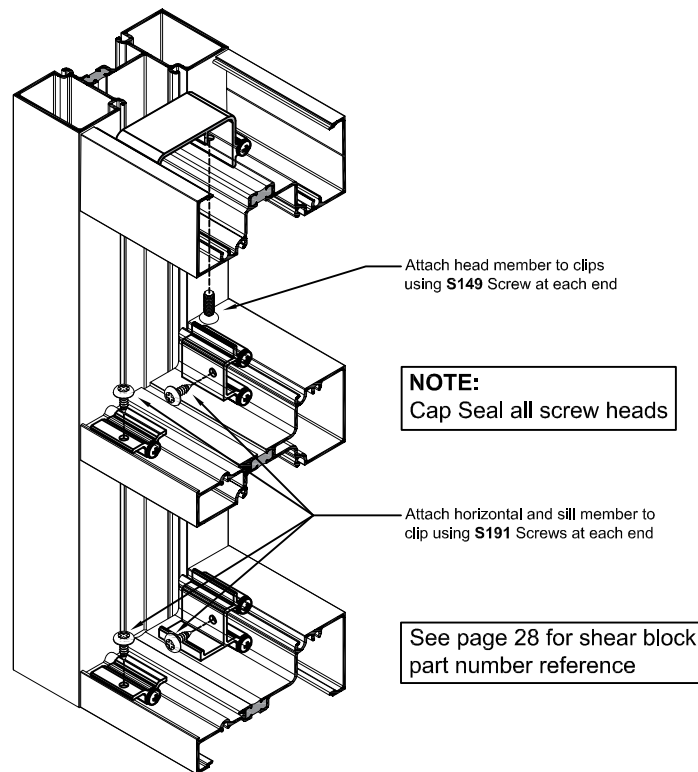

Fig.40.1
- G. Secure head member to shear block with (1) S149 #12 x $\frac{3}{4}$ " FH screw. Secure horizontal and sill members with (2) S191 #10 x $\frac{1}{2}$ " truss head screw. See **Fig. 40.1**.